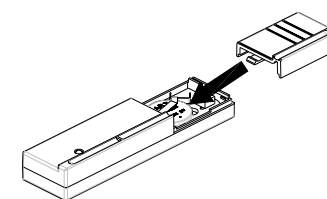

FIGURE 9c
3. Refit the battery cover. (FIGURE 9c)